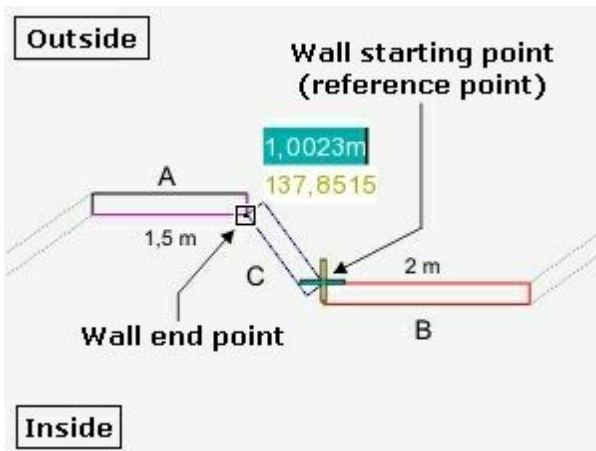

Figure 6
Figure 6 demonstrates with an example the use of this feature. The walls A and B are to be interconnected by a third wall (C). The inside dimension of wall A (1,5 m) and the outside dimension of wall B (2 m) are not to be changed. To do this the wall starting point and the wall end point of walls C are moved in the appropriate direction.